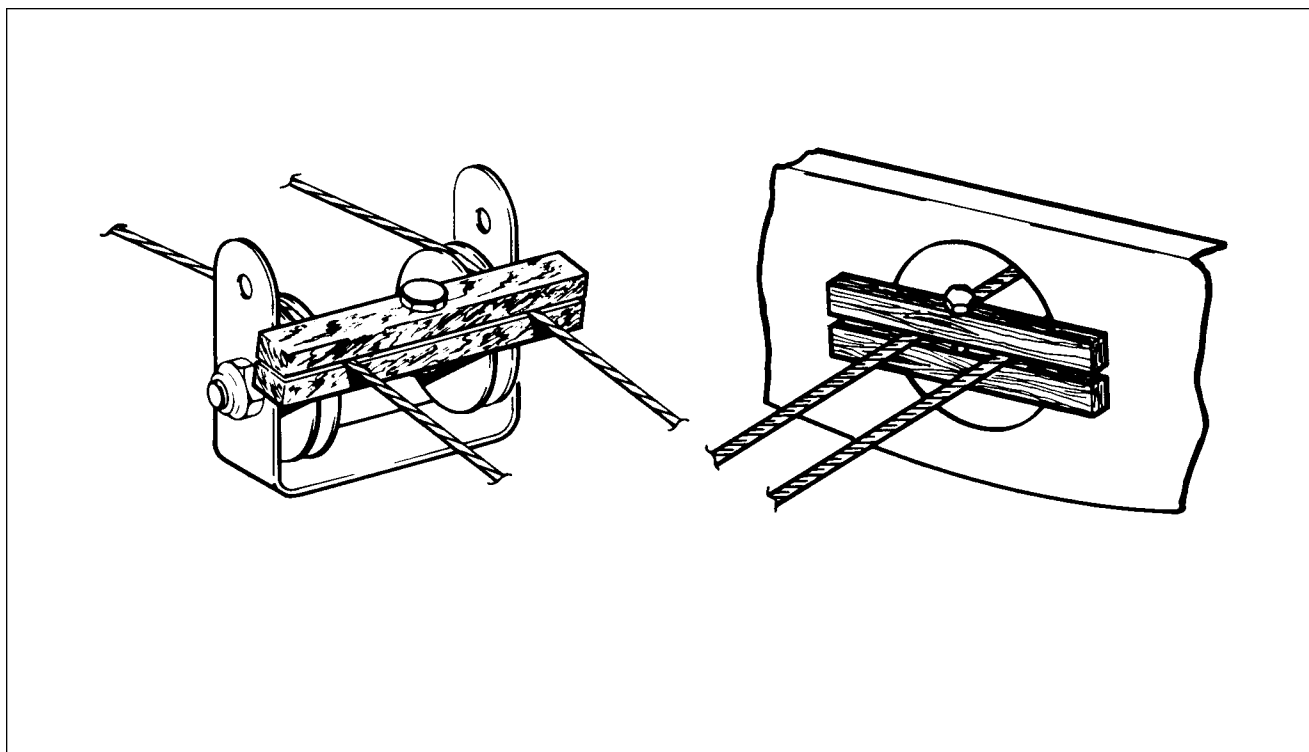

Figure 5-7. Methods of Securing Trim Cables
- b. If the aft trim cable (12) is not to be removed, block the cables at the pulleys (13) in the upper aft section of the fuselage to prevent them from unwrapping from the trim drum. (Refer to Figure 5-7.)
- c. Loosen the cables if the trim control wheel (1) is to be removed or disconnect if the cables are also to be removed. Do this at the trim cable turnbuckles (10 and 11) in the aft section of the fuselage.
- d. The control wheel (1) with drum (3) may be removed by the following procedure:
2. The wheel assembly may be removed from its mounting brackets by removing nut, washer and bolt (7) that secures the wheel between the brackets. Draw the wheel from the brackets. Use caution not to damage trim indicator wire(2).
3. Unwrap the left cable (9) from the drum.
4. The wheel and drum are joined by a push fit, separate these two items with their center bushing and unwrap the right cable (8).
- b. Block the trim cables at the first set of pulleys (33) forward of the cable turnbuckles (10 and 11) in the aft section of the fuselage by a method shown in Figure 5-7.
- c. Disconnect the cable (12) at the turnbuckles (10 and 11) in the aft section of the fuselage.
- e. Disconnect the link (25) between the trim screw (23) and the trim control arm (28) by removing the nut, washer and bolt (24) that connects the link to the screw.
- f. Remove the cotter pin from the top of the screw (23), and turn the screw down and out of the barrel (20).
- g. Remove the snap ring (32), washer (31) and thrust washer (30) from the bottom of the barrel.
- h. Disconnect the diagonal rib (22) from the horizontal rib (16) that supports the trim assembly by removing the four attaching nuts, washers and bolts.
- i. Draw the trim cable (12) from the fuselage.